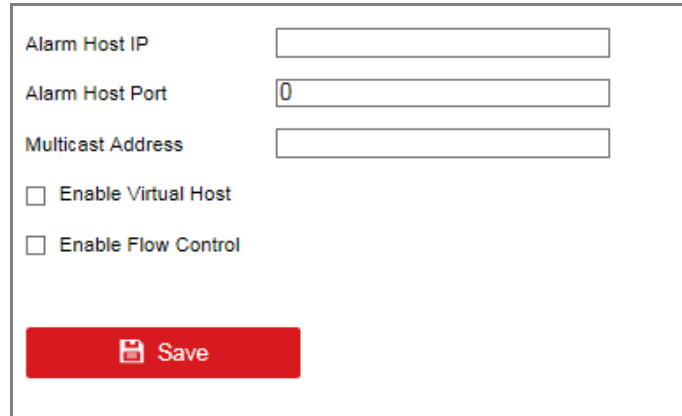

Figure 10-22 Advanced Settings Interface
Step 1 Enter the Advanced settings interface, as shown in the Figure 10-22.